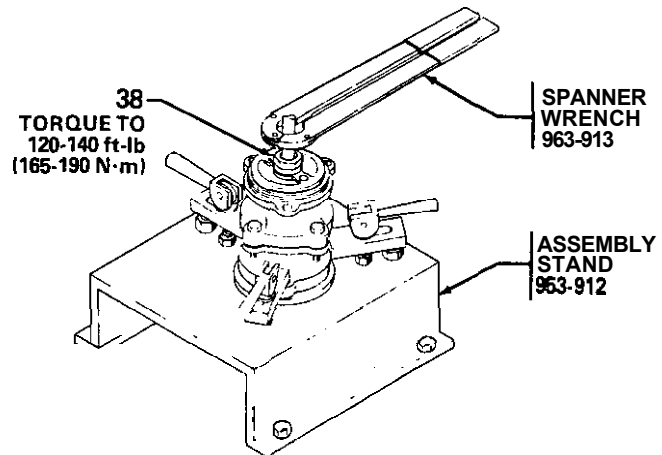

Fig 13
12. Remove the assembly from the vise and mount it in the assembly stand 953-912. Refer to Fig 13.
13. Continue assembling the bowls and impellers as in Steps 10 and 11, but use screws (16), lockwashers (19) and nuts (17) to join the bowls.
14. Install the riser tube (45 or 76 or 77) with the screws (74), lockwashers (19) and nuts (17).